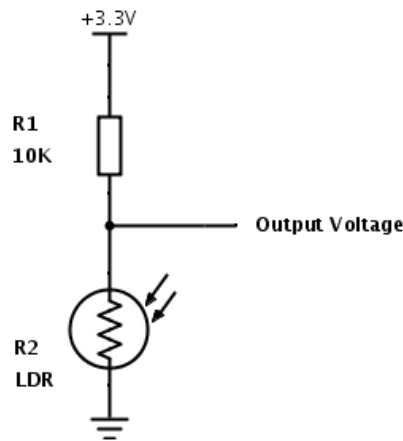

Fig. 1: Wiring Schematic for LDR
Step 1: Insert the photocell resistor into the breadboard with both pins in the same column. Now insert the 10k Ω resistor into the breadboard with one pin in the same row as the bottom pin of the photocell resistor with one space between the photocell resistor and the 10k Ω resistor. The wiring schematic is shown in Fig. 1